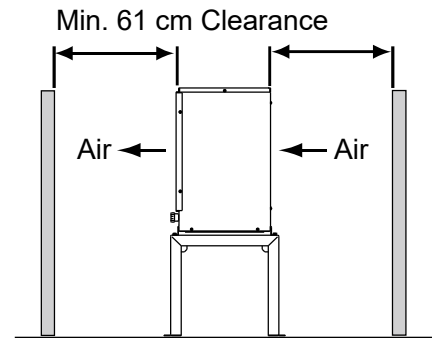

Fig. 9
- A dry and well ventilated area with 61 cm clearance in both front and rear for proper air circulation and ease of maintenance and/or service should they be required. See Fig. 9.